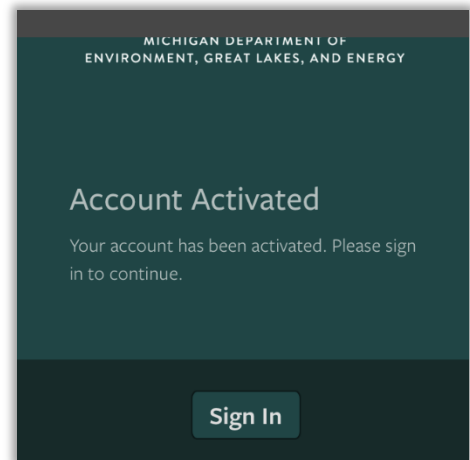

Figure 5-2 – Account Activated
- b. **Click the link to activate your account.** You will see a pop-up window that states “Account Activated.” (Figure 5-2.)